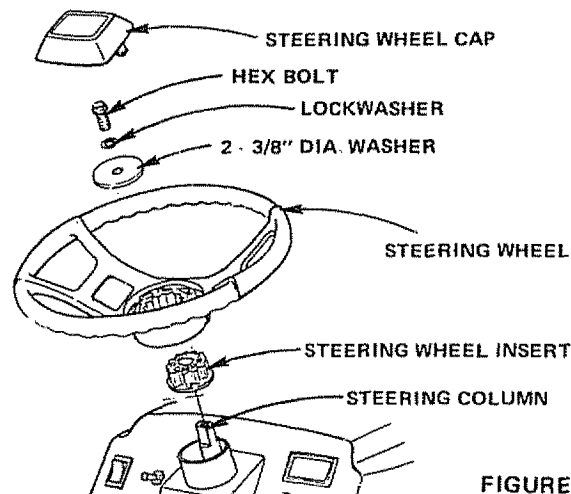

FIGURE 5
- a. Remove Hex Bolt, Lockwasher and 2 - 3/8" Dia. Washer from Steering Column (Fig. 5).
- c. Secure Steering Wheel to Steering Column using Hex Bolt, Lockwasher and 2 - 3/8" Dia. Washer (Fig 5).